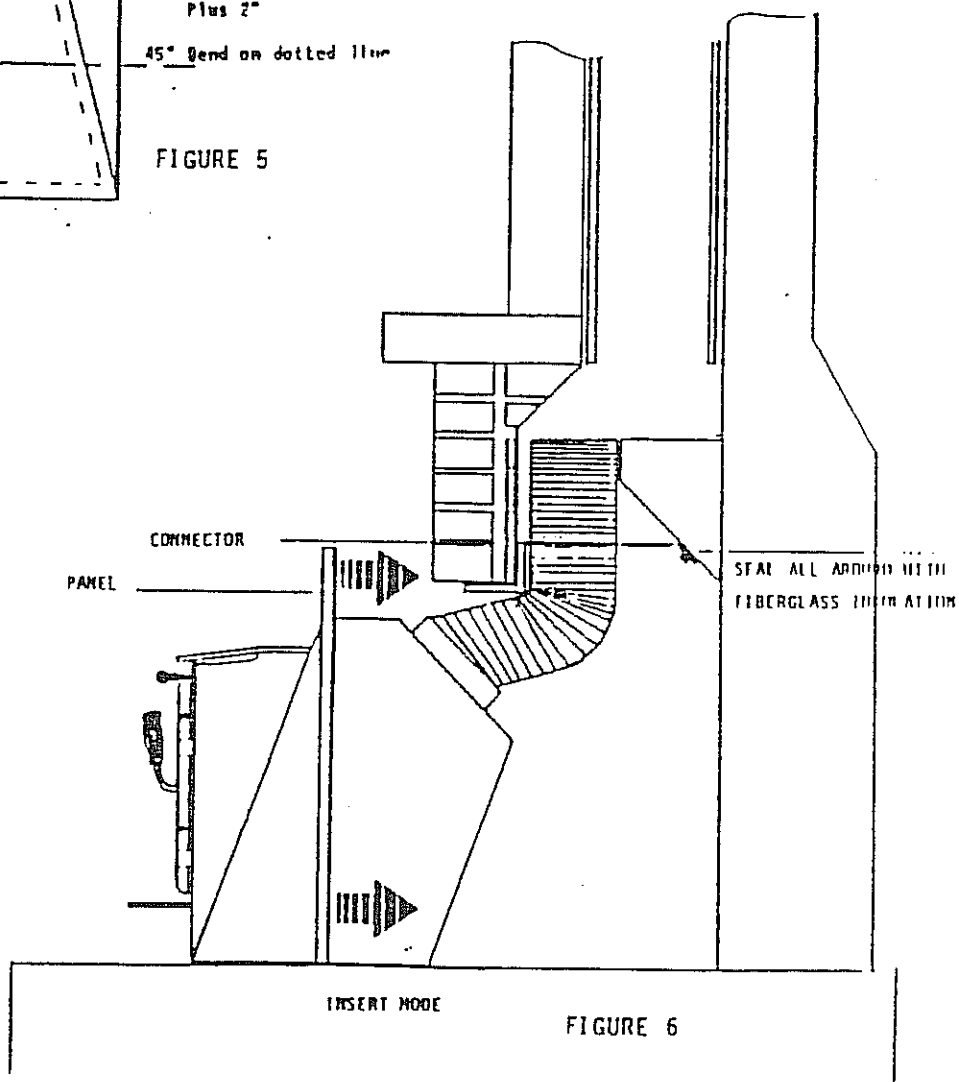

FIGURE 6
6. Put plate in position, drill and lag in masonry with several screws. (Seal may be made using fiberglass insulation between masonry and metal.) Fig. 6 .
8. You may now place your new appliance into the fireplace opening and position the connector pipe so it can easily be pushed into the flue opening on top of the insert. (Fig. 6)